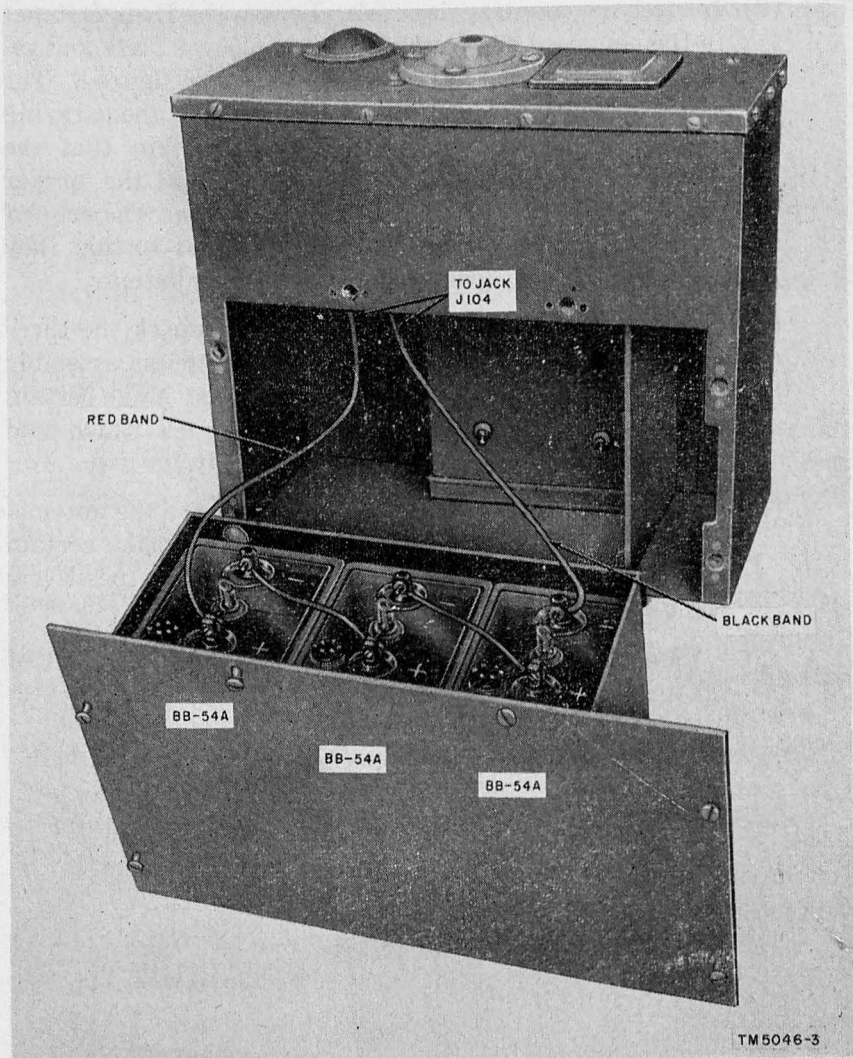

Figure 4. Battery compartment and battery connections.
- (1) Remove the six Dzus fasteners holding the battery compartment to the back of the set (fig. 4). To install the three batteries in the compartment, first place a battery